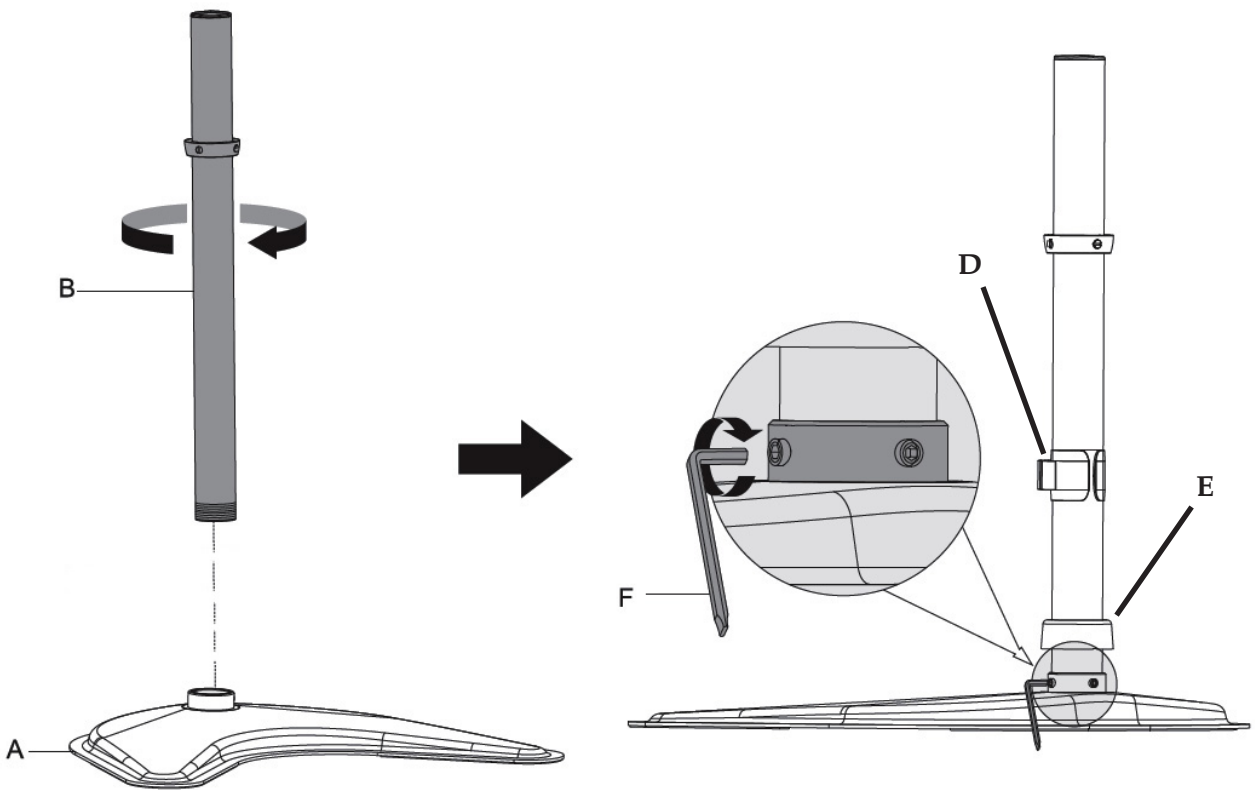

Figure 1
Slide the **Cable Management Clip (D)** and **Plastic Cover (E)** onto the tube support, then mount the **Tube Support (B)** to the **Weighted Base (A)** by turning it clockwise until hand tight. Next, use the **3mm Allen Key (F)** to tighten the set screws to secure the tube support, see **Figure 1**. Continue to **Step 2**.